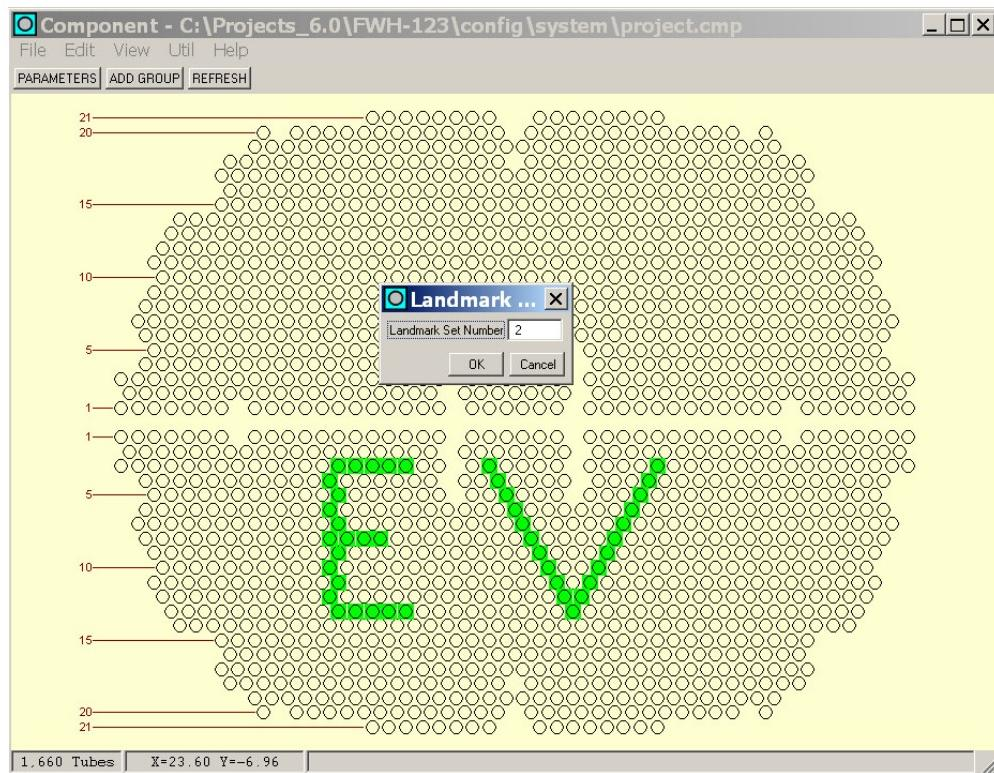
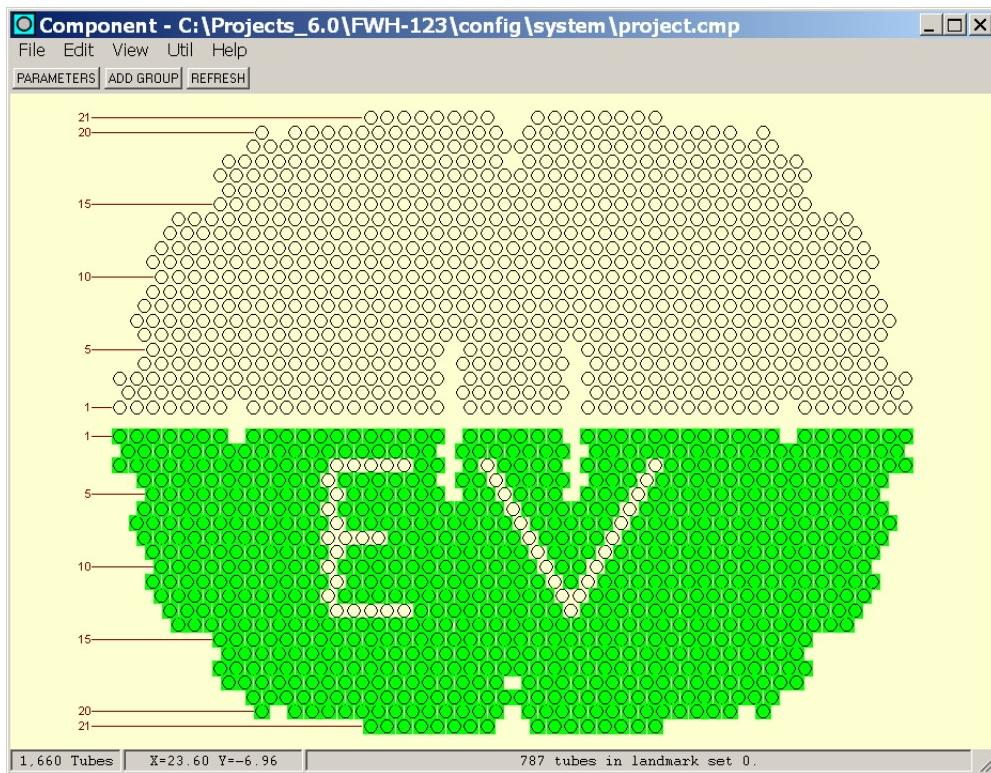

Figure 52. Assigning Selected Tubes to a Different Landmark Set (Set Landmark Set)
Figure 53. Landmark Set ‘0’ (Zero) After Reassigning Selected Tubes to a Different Landmark Set
- **Popup | Set Landmark Set:** This feature provides way for the user to assign *any* selected tubes to an existing or new landmark set. In Figure 1, the feedwater heater *cmp* file has two (2) landmark sets, '0' (*zero*) and '1'. Landmark set '0' is assigned to all the inlet leg tubes on the lower half of the tubesheet map, while landmark set '1' is assigned to all the outlet leg tubes on the upper half. In Figure 52, a pattern of tubes has been selected on the inlet leg. Clicking **Set Landmark Set** on the **Popup** menu causes the **Landmark** dialog box to appear as shown in Figure 52. In this example, '2' has been entered in the **Landmark Set Number** field. Clicking **OK** on this dialog will cause the selected 'EV' tubes to be reassigned to a new landmark set numbered '2.' Now, when landmark set '0' is selected on the *fly-out* menu after clicking **Popup | Select Landmark Set**, the user would now see the result in Figure 53. This indicates that the 'EV' pattern of tubes is no longer using landmark set '0'. In addition to using manual select as shown in this example, **Select Group**, **Select Section**, and **Select Row** may also be used with this feature.